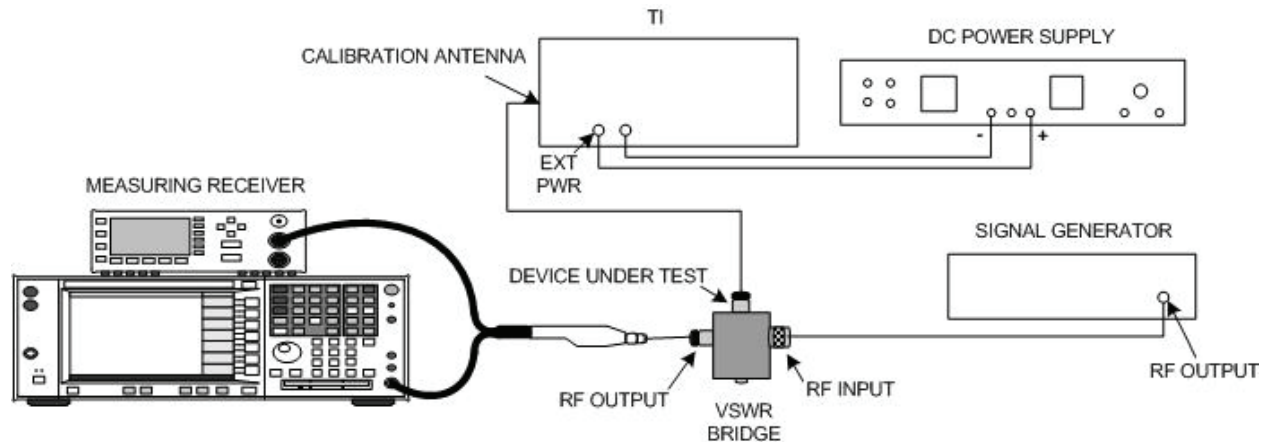

Figure 2. Minimum antenna power equipment setup.
- (5) Connect dc power supply to RF module **EXT PWR TEST SET** test points. Adjust dc power supply controls for a multimeter indication between 12.5 and 13.5 V dc.
- (6) Connect equipment as shown in figure 2.